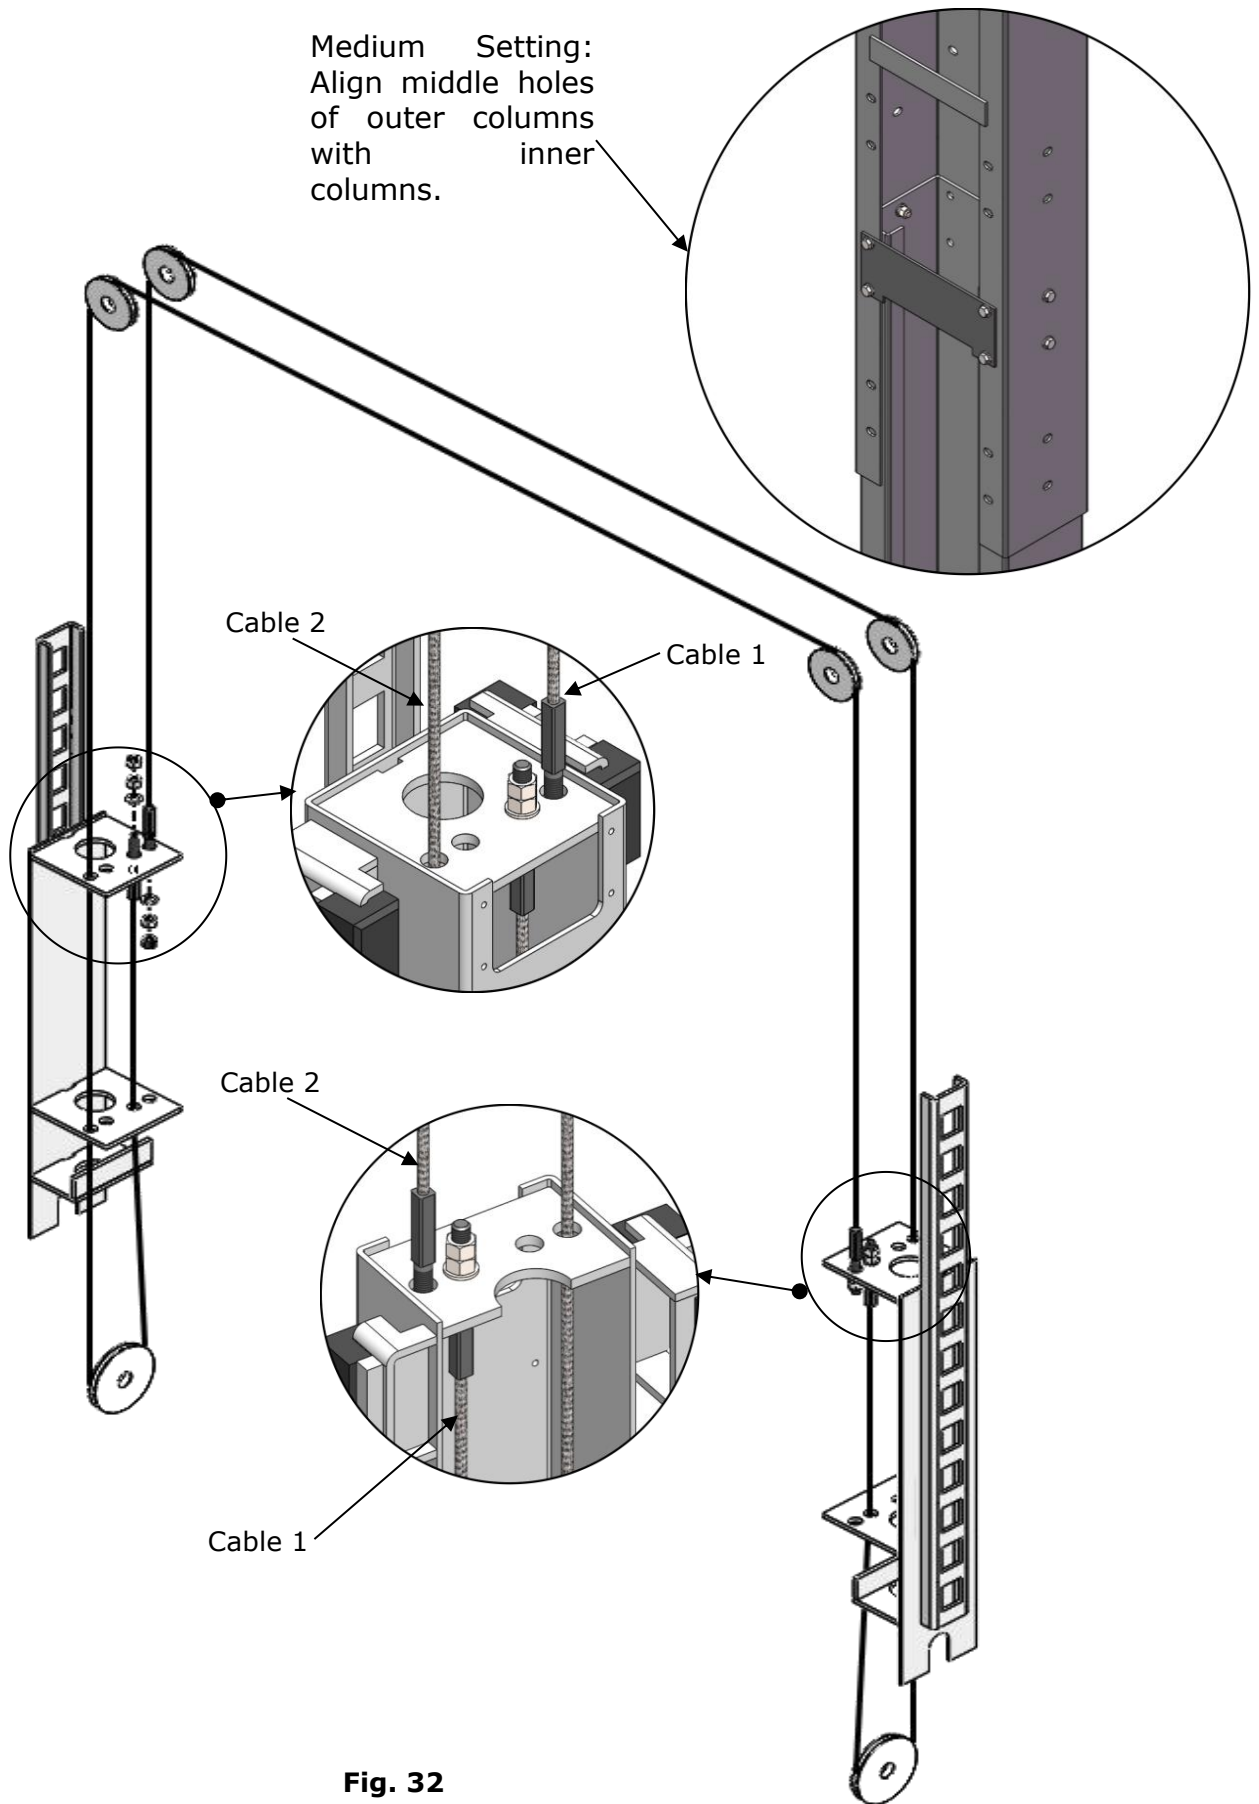

Fig. 32
2. Sync cable connection of medium setting installation. **(See Fig.32)**